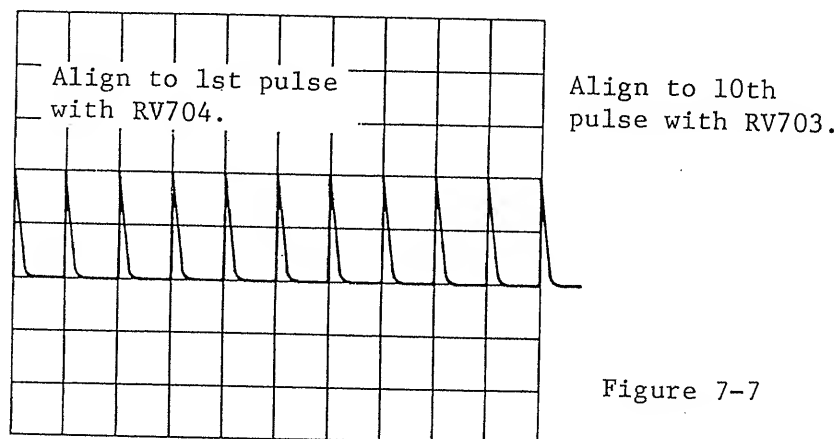

Figure 7-7
- (1) Apply to the vertical input terminal a time marker signal of 1 mS and display the waveform with an appropriate amplitude on the screen.
- (2) Set the VARIABLE knob (41) in the CAL'D position, set the TIME/DIV switch (39) at 1 mS, set the TIME/DIV switch (40) at 10 μ S, and change the DISPLAY switch (29) to the A INTEN state.
- (3) Set the dial indication of the DELAY TIME MULTI at 1.00 and align the displayed waveform with the graticule.
- (4) So adjust the DT START (Figure 7-9, RV704) that the accentuated portion of the waveform is aligned to the initial pulse as shown in Figure 7-7.
- (5) Set the dial indication of the DELAY TIME MULTI at 10.00.